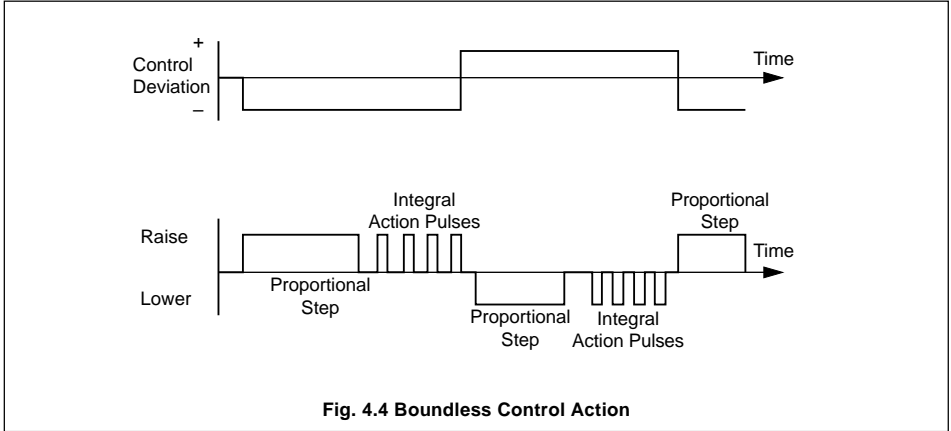

Fig. 4.4 Boundless Control Action
4.5.2 Valve Setup (Boundless Types) – Fig. 4.4